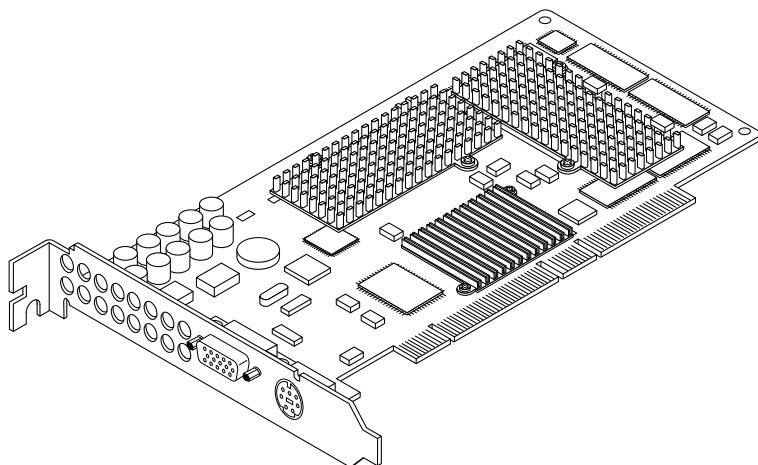

FIGURE 1-1 Sun XVR-500 Graphics Accelerator
- FIGURE 1-1 Sun XVR-500 Graphics Accelerator 1
The Sun XVR-500 graphics accelerator (FIGURE 1-1) is supported on the following systems: